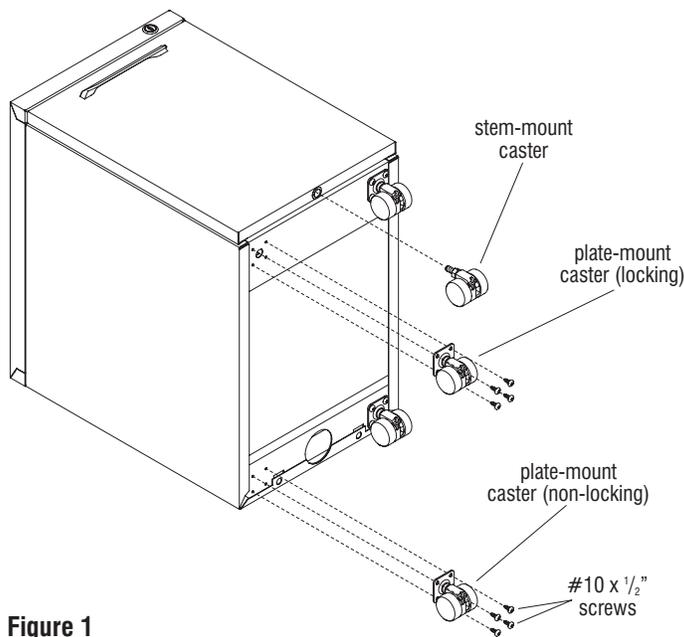

Figure 1
1. Carefully lay pedestal onto a soft, protective surface, on its back-side as illustrated (Figure 1).
2. Align the mounting holes of each plate-mount caster with the pilot holes on the underside of the pedestal, making sure to position the two locking casters towards the front, user side of the pedestal and the non-locking casters at the back. Using a #2 Phillips tip and power drill driver, secure each caster to the underside of the pedestal with four #10 x 1/2" screws (Figure 1 & Details A & B).
3. Using a 12mm hex wrench, fasten the stem-mount caster into the threaded insert at the underside of the pedestal drawer and tighten securely (Figure 1 & Detail C).